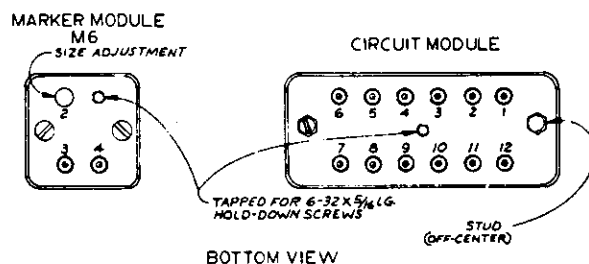

Figure 5-2. Module Pin Numbering System
**REMOVAL OF MODULE** – Modules may be removed by removing any cables attached to the top of the module and removing the hold-down screw (C) from the bottom.
**REINSTALLING MODULE** – Before reinstalling the module, check the module pins for proper alignment, then carefully seat the module pins into the chassis socket and replace the hold-down screw (C) to insure a good ground connection between module and chassis.
**MODULE PIN NUMBERING SYSTEM** – The module pins are numbered as shown in Figure 5-2. The index studs for the circuit modules are located off center to prevent the module's being plugged in backwards. This off-center stud location also provides a method for locating pin #1.